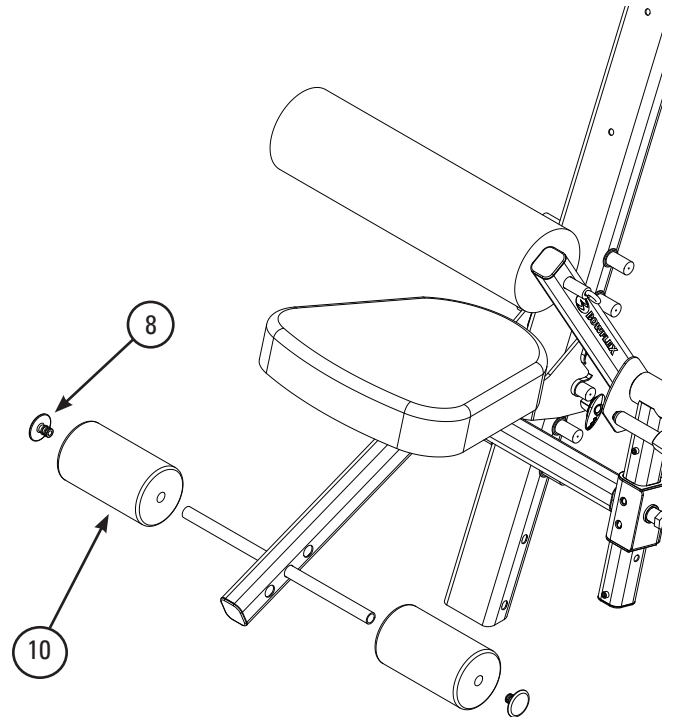

Figure 6b
- 6-2 Slide a Foam Roller Pad (10) onto each end of the Extension Tube (9) and secure with End Caps (8). See **Figure 6b**.